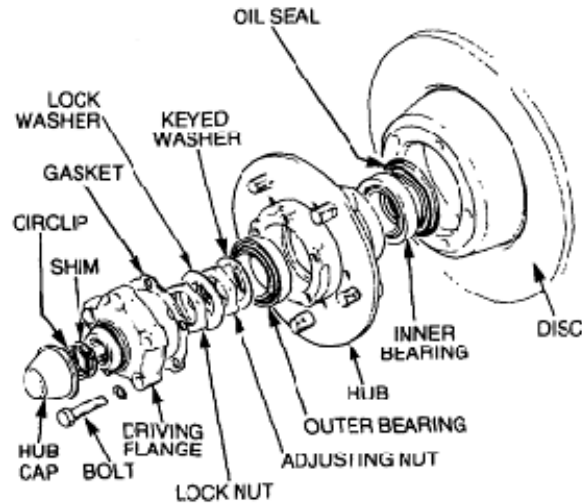

Figure 91 Front Hub and Disc Exploded View
- l. Remove the circlip from the drive shaft and remove the shim (Figure 91).